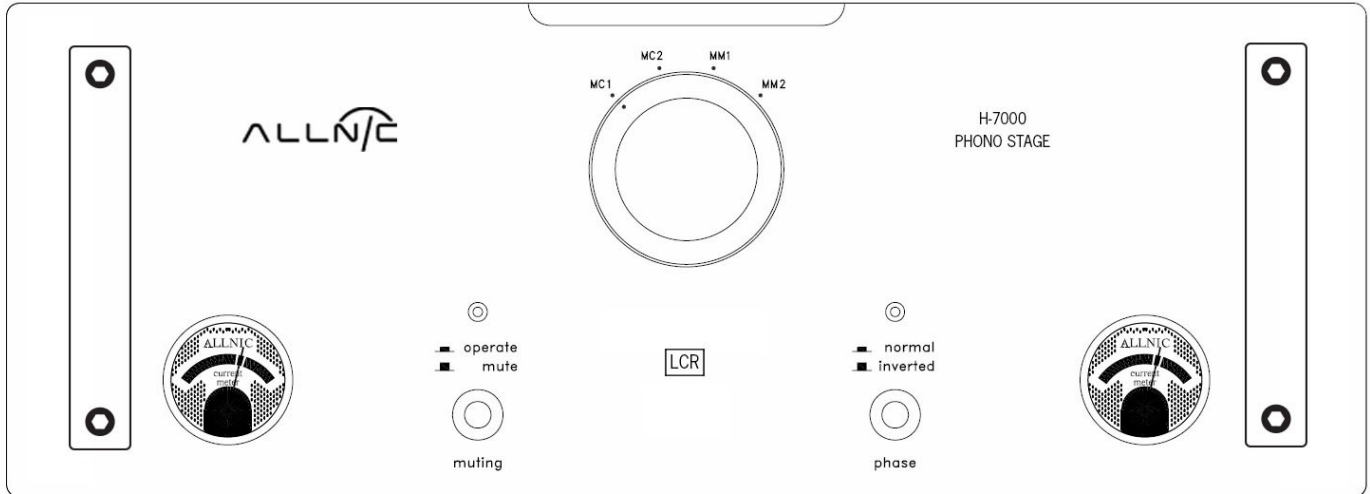

FIGURE 4: H-7000 / H-7000V
For all versions of the H-7000 / H-7000V, there are two (2) sets of two (2) pairs of single-ended (RCA) inputs. These two pairs are located in the middle of the rear of the phono stage (See Figure 4) and labeled “input” in the middle above them. Each channel pair of inputs is aligned vertically, with the left channel input at the top and the right channel input on the bottom. The two left hand pairs of inputs (facing the back of the phono stage) have an “MC1” and “MC2” label above the two left channel connectors; these are the two input pairs for a moving coil cartridge. The right-hand pairs of inputs have an “MM” label above the left channel connectors, “MM1” and “MM2”; these are the two input pairs for a moving magnet cartridge. Each pair of moving coil and moving magnet connections has a number label between the left and right channel input connections.
The H-7000 / H-7000V is equipped with one pair of unbalanced or “single-ended” (RCA) outputs and one pair of true balanced (XLR) output connections. The left channel output connections are labeled “left output” and are just to the left of the DC Source Input. The right channel output connections are labeled “right output” and are on the far left-hand side of the rear of the phono stage unit (See Figure 4). In each pair, the balanced (XLR) connection is labeled “1”, and the unbalanced (RCA) connection is labeled “2”.